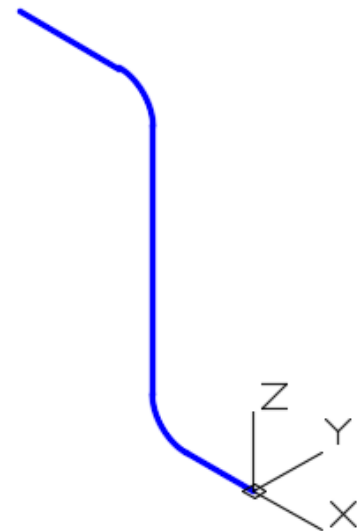

Figure Step 8
Step 8 Using the FILLET command and the Polyline option, as shown below, fillet the corners with a radius of 2. (Figure Step 8)